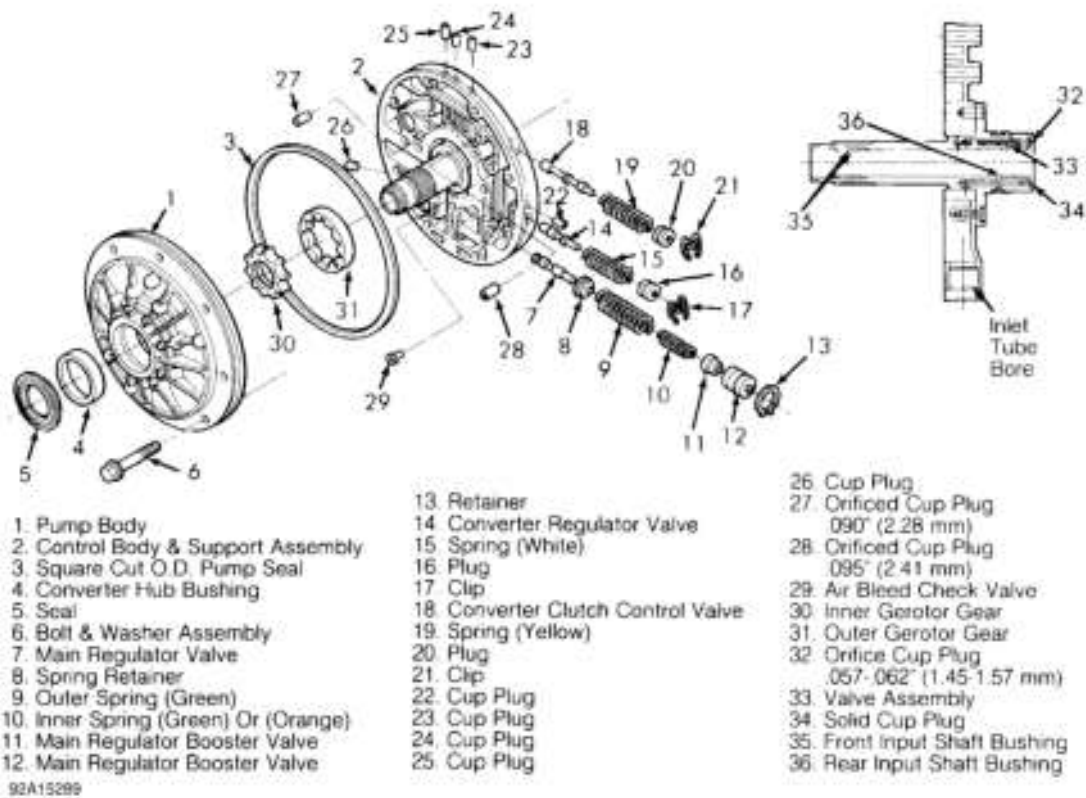

Fig. 23: Exploded View Of Pump Assembly
3. Apply pressure to end plug and remove retainer clip with small screwdriver or tweezers. Remove converter regulator valve and converter clutch valve. DO NOT remove any cup plugs unless damaged or leaking. See **Fig. 23**. Remove gerotor gear set from pump body.